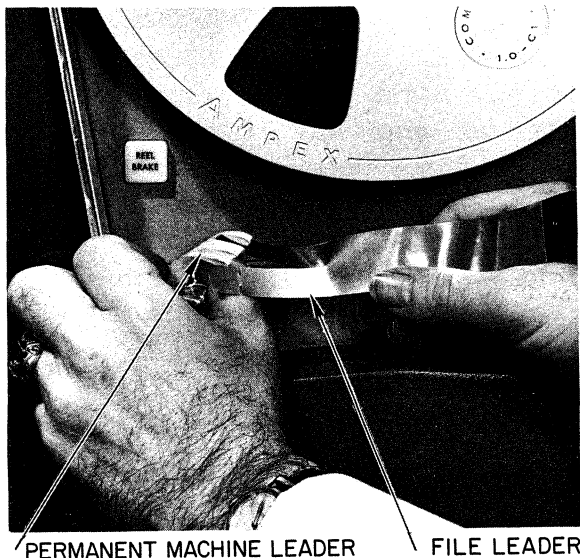

Figure 3-4.
Step 6: Connect the supply leader to the take-up leader as shown in Figure 3-4. One-inch tape leaders have two sections in the quick-connect splice, one-half-inch tape leaders have a single section splice.